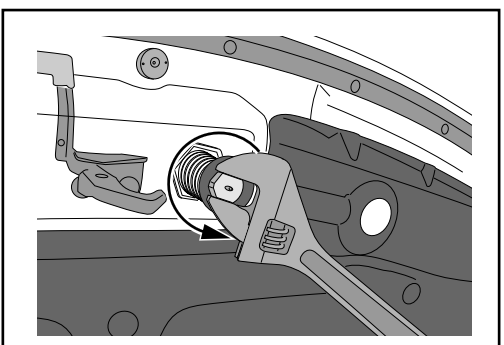

Figure 9
9. On vehicles with limited Hood Protector to grille clearance, it may be necessary to adjust the hoods latch spring length. Using a suitable wrench, loosen the retaining nut on the hood latch spring by one full turn, then gently close the hood. Check the Hood Protector to grille clearance, and re-adjust the hood spring latch (in 1/2-turn increments) if necessary (see Figure 9).